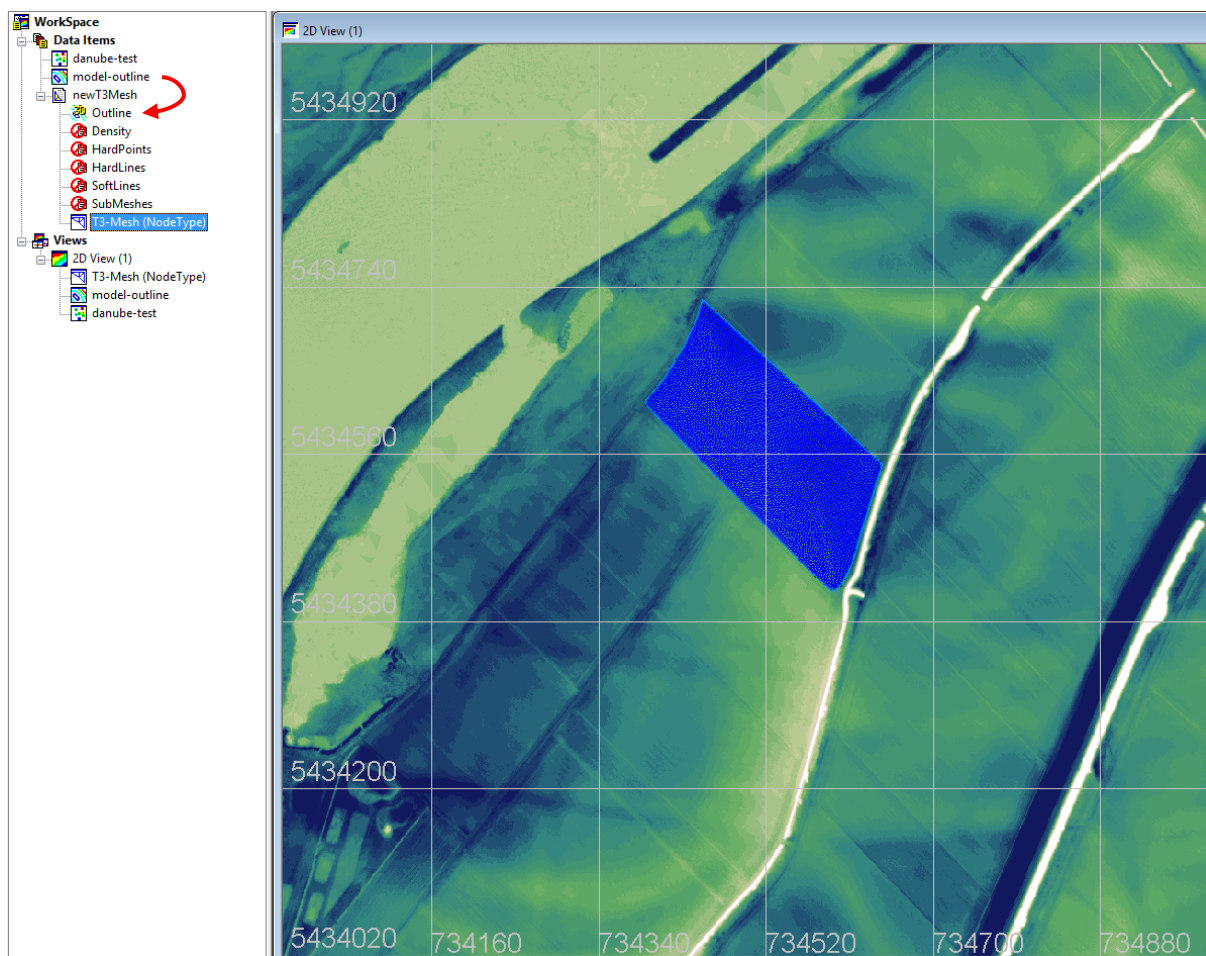

Figure 3: Preparing to create a mesh with the "T3 Mesh Generator".
2. Draw a polygon in the “2D View (1)” window delineating your model area. The area of interest is the pilot area field plot. End the delineation by pressing “Esc”.
6. Drag the previously created “model-outline” object on the “Outline” of the “newT3Mesh” (see arrow in Figure 3).